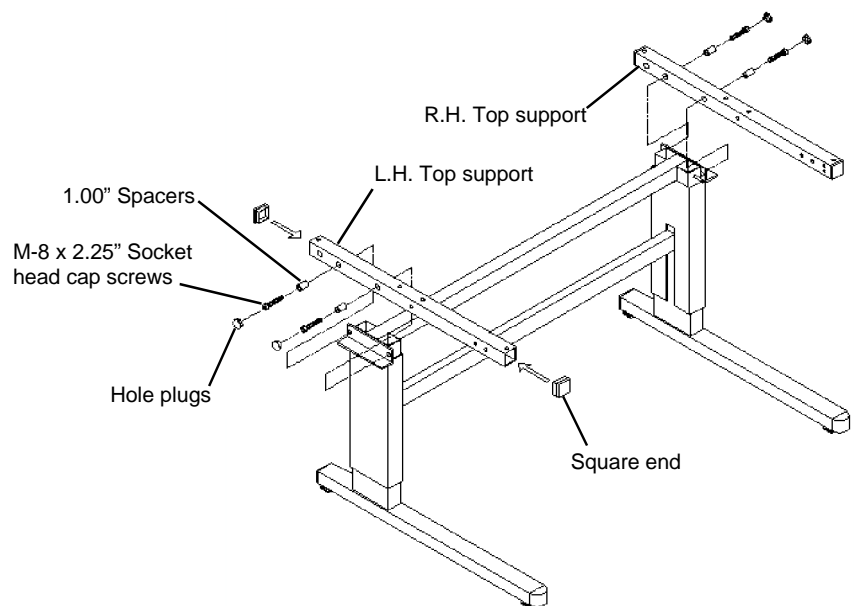

Figure 2
2. Install the left and right hand **Top Supports** using the four M-8 x 2.25" Socket head screws and 1.00" **Spacers**. Tighten securely with the 6mm Allen wrench. Install the square **End Caps** at both ends of the Supports. Install the round **Hole Plugs**. See **Figure 2**.